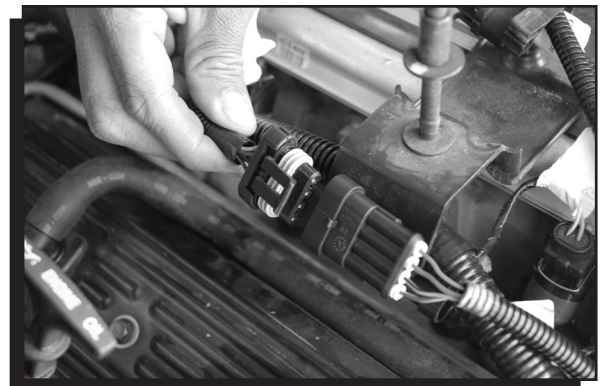

Figure 13 Distributor Connector.
22. Route the new wiring harness to the top of the intake and plug in the connector (Figure 13).